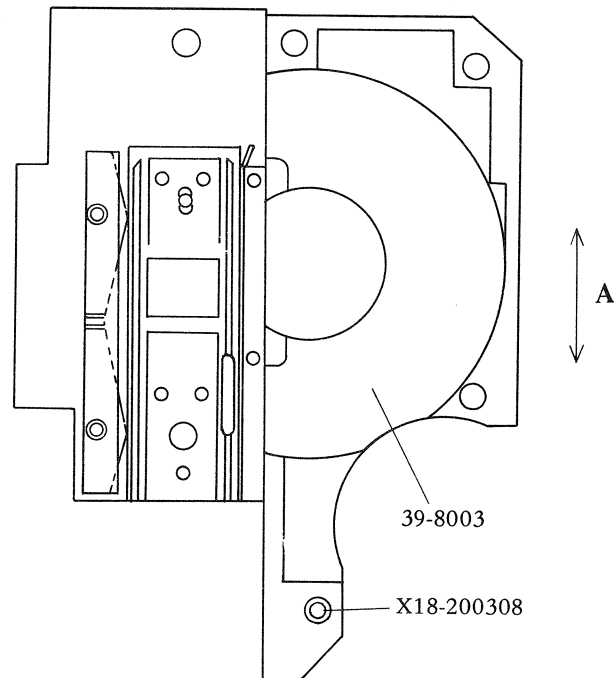

Fig. 17
2. Loosen the Screw (X18-200308) and slide the Lens Holder (39-8003) in the direction of the arrow "A" (Fig. 17).